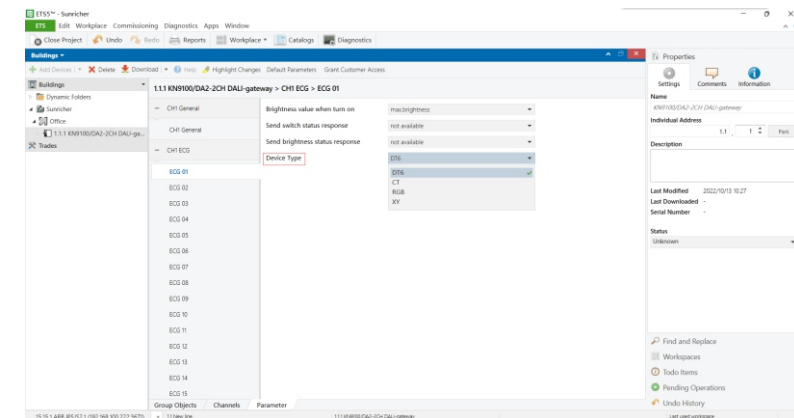

Figure 34
**Device Type:** means the device type of the ECG, drop down and tick a value, available settings are “DT6”, “CT”, “RGB” and “XY” as shown in Figure 34. This parameter should be set according to the device type of the discovered corresponding DALI i-ch control gear in DALI programming part. Corresponding DALI device types of the 4 values are as follows: “DT6” corresponds to “LED Converter” type in DALI Master, “CT” corresponds to “DT8 Tc” type in DALI Master, “RGB” corresponds to “DT8 RGB” type in DALI Master, “XY” corresponds to “DT8 XY” type in DALI Master.